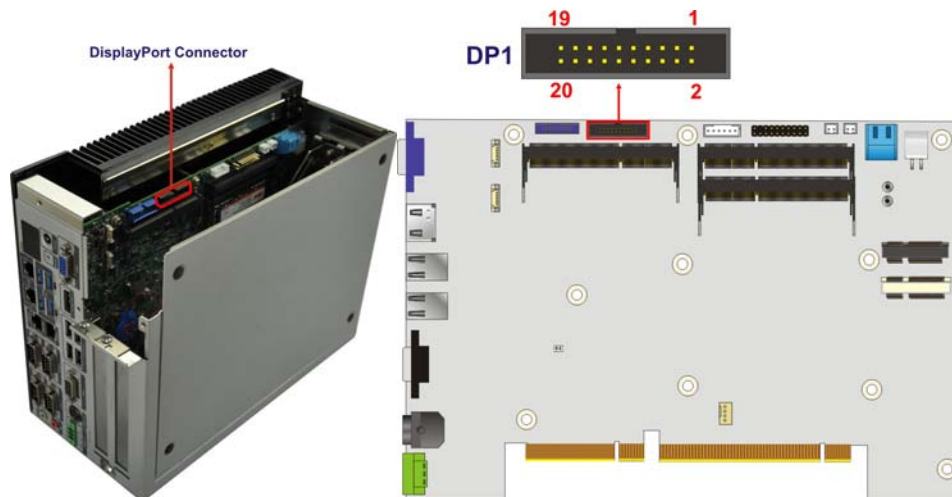

Figure 3-22: Internal DisplayPort Connector Location
Step 2: Locate the internal DisplayPort connector. The location of the internal DisplayPort connector is shown in **Figure 3-22**.